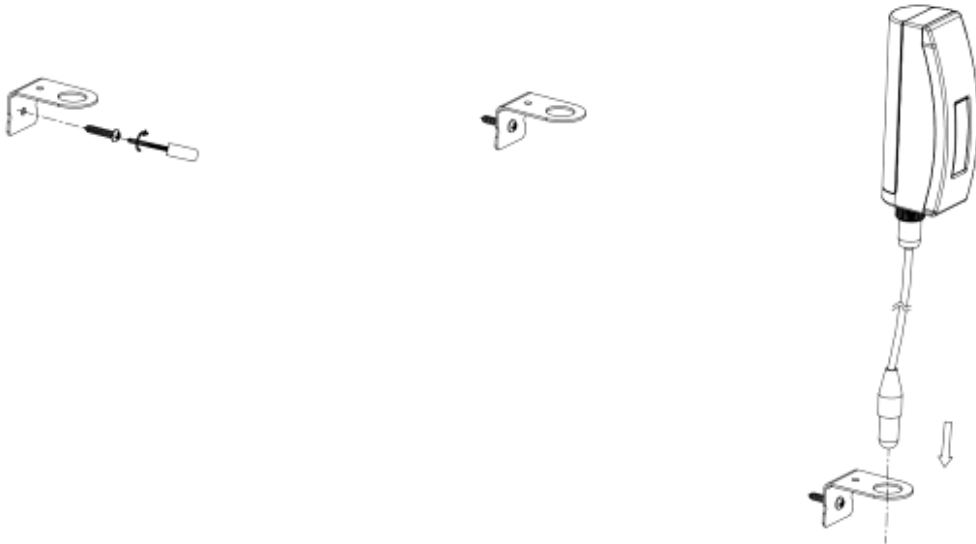

Figure 3
- Use a screw (screw ST D3.2\*M2.0\*6) to fix the bracket to the wall, then pass the probe through the hole in the bracket as shown in Figure 3: